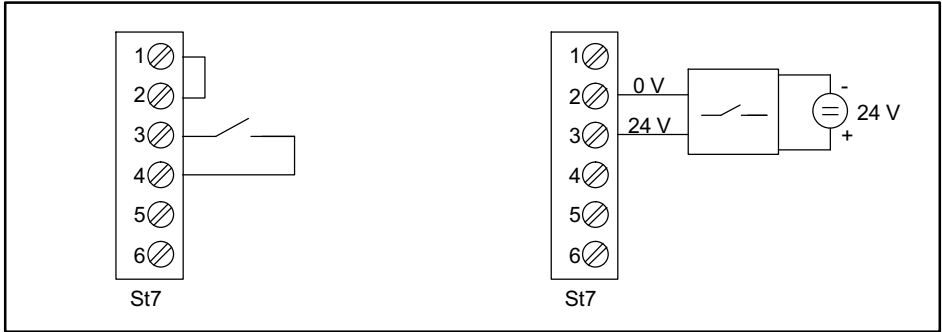

Fig. 5.6 External control signal trigger
- with an external push button or relay point on strip terminal St7, terminals 3 and 4 (see Fig. 5.6).
- with an external voltage (5 V...30 V) at strip terminal St7, terminals 2 and 3 (see Fig. 5.6). The input is potential-free by using optical couplers.